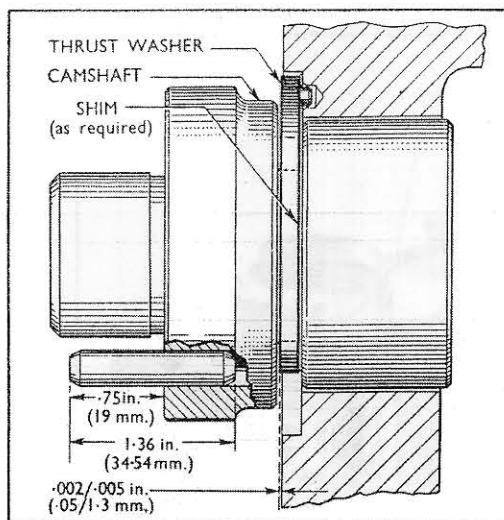

Fig. 22.
25. Before fitting the camshaft a check should be made that the camshaft thrust washer protrusion forward of the front face of the cylinder block is between the specified limits of .002 to .005 in. (.05 to .13 mm.) see Fig. 22. This may be established by placing the thrust washer in the recess in the block, without the camshaft, and by means of a straight edge across its front face, measuring the protrusion with suitable feeler gauges.